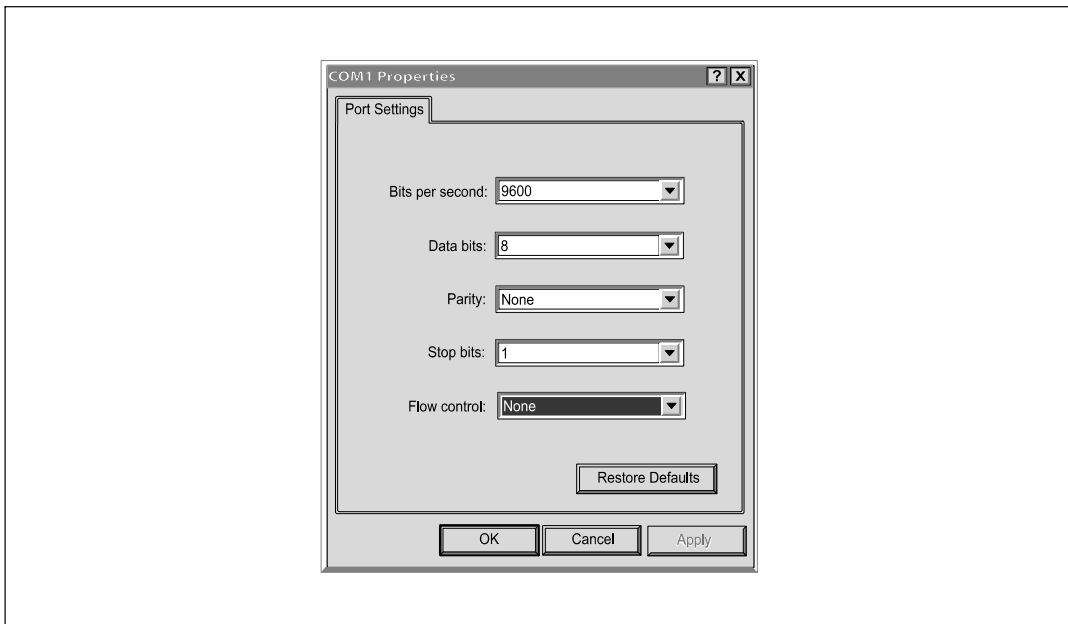

Figure 6. Configuring Port Settings
- 4 Set the serial line to **9600 baud, 8 data bits, No parity, 1 stop bit, no flow control** (see Figure 6).